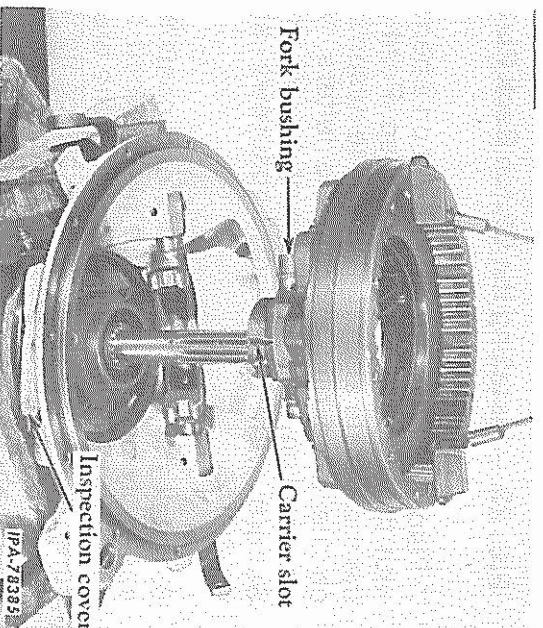

FIG. 26 — Installing the Clutch Assembly
22. Move the left hand release shaft up against the clutch housing to place the release fork in the fully engaged position. Attach a hoist to the clutch drive ring and position the clutch assembly over the clutch shaft. Place the fork bushings on the pins of the bearing carrier and turn the bearing carrier so the slot in the threads is toward the inspection cover opening in the clutch housing (Fig. 26).